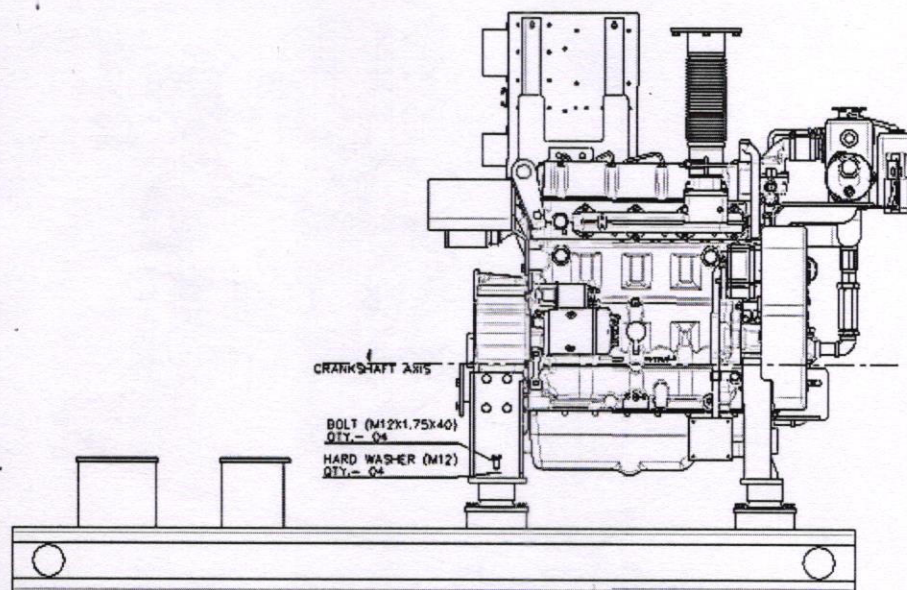

Figure 5 – Engine installation with AVM
- 10) Now the engine installation is completed and ready for the further assembly, Figure 5. For engine foundation please refer the engine installation for respective engine models. And other details please refer the Operation & Maintenance manual.